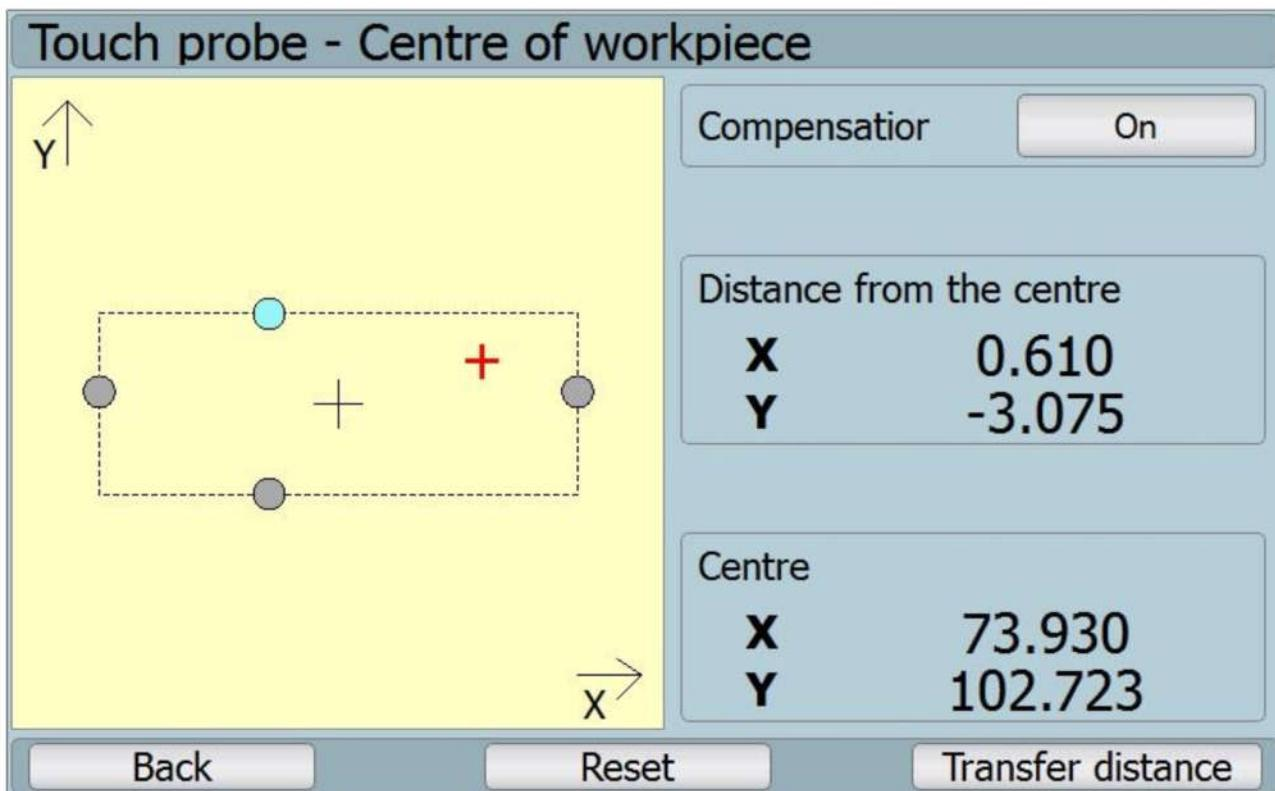

Fig. 49: Touch probe – workpiece centre – found centre
- ⑩ After reaching the remaining three points (each on one side of the workpiece) and confirming the coordinates, the found workpiece is drawn with the centre (see fig. 49: Touch probe – workpiece centre – found centre).
- ⑩ It displays value of coordinates of the found centre, and it displays data on the workpiece centre distance from the touch probe coordinates.
- ⑩ Button „**Zapnuto/Vypnuto**“ (on/off) for the compensation edits values of the centre coordinates as per the defined compensation received during the calibration of the touch probe on the circle (see chapter **Chyba! Záložka není definována.**).
- ⑩ Button „**Reset**“ sets everything into the initial setting.
- ⑩ Button „**Prenest stred**“ (transfer centre) transfers the coordinates of the defined axis centre.